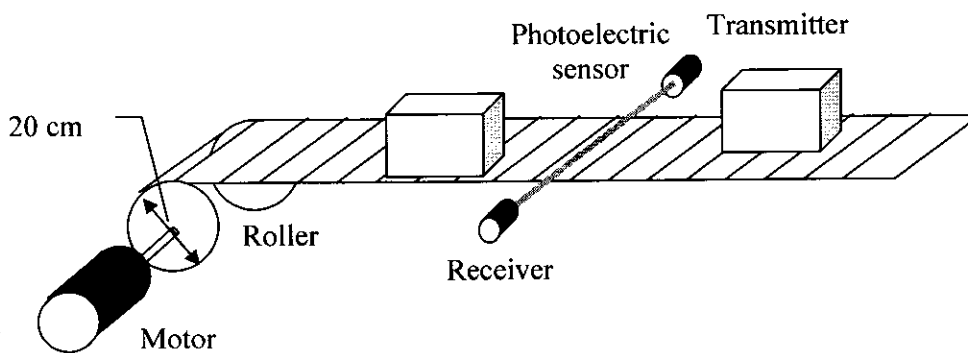

Figure Q6(a)(ii)
- (ii) In the packaging industry a photoelectric sensor is used to detect boxes on the conveyor as shown in Figure Q6(a)(ii). The dimension of the boxes is 5 cm x 5 cm x 3 cm (length x width x height). The width of the light beam is 1 cm. The speed of the motor is 90 rpm. The diameter of the roller is 20 cm. Calculate the required sensor response time.